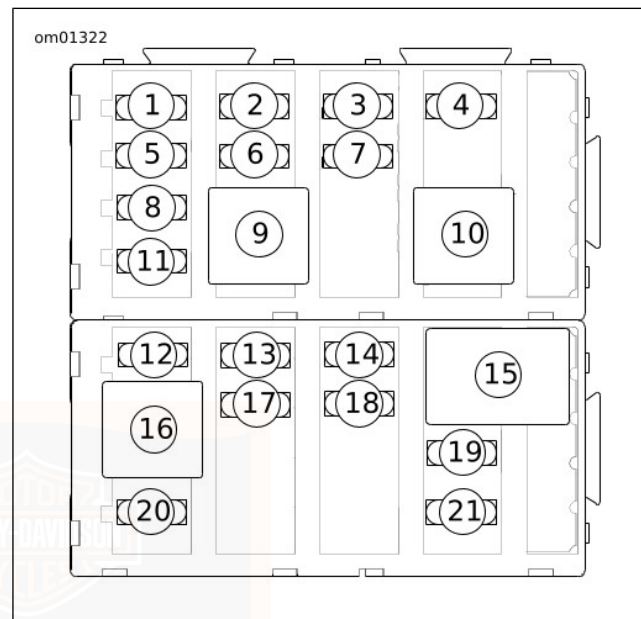

Figure 75. Fuses: Tri Glide Models
4. See Figure 75 and refer to Table 32. Remove fuse and inspect the element.